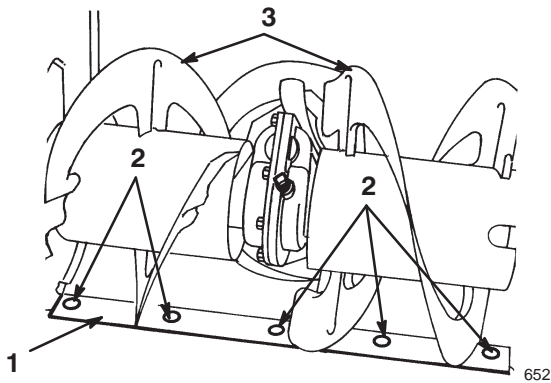

Figure 22
1. Skid (2)
2. Flange nuts (4)
3. Auger side plate (2)
6. Support the **auger blades** so that they are 1/8 inch (3 millimeters) off the ground (Fig. 22).
8. To adjust the scraper, loosen the 5 mounting screws (Fig. 22), level the scraper, and tighten the mounting screws.